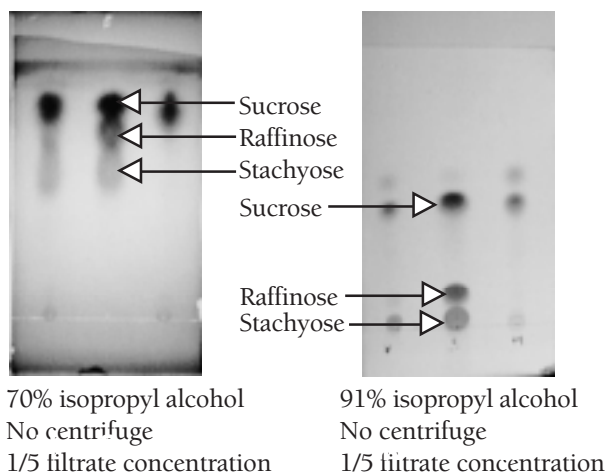

Figure 4
- Varying sizes and densities of black spots will appear in a lane that stretches above each labeled pencil dot on the plate. Using figure 4 as a guide, help students locate the spots that correspond to sucrose, raffinose, and stachyose in the “S” lane. Compare the spots that appear in the lanes above the “N” for normal soybeans and “H” for high sucrose soybeans to the positions of the spots for pure sucrose, raffinose, and stachyose that appeared in the “S” lane. Use a pencil to mark the spots with an “S” for sucrose, “R” for raffinose, and “ST” for stachyose. (Note: Other spots that may appear in the lanes are other sugars.)